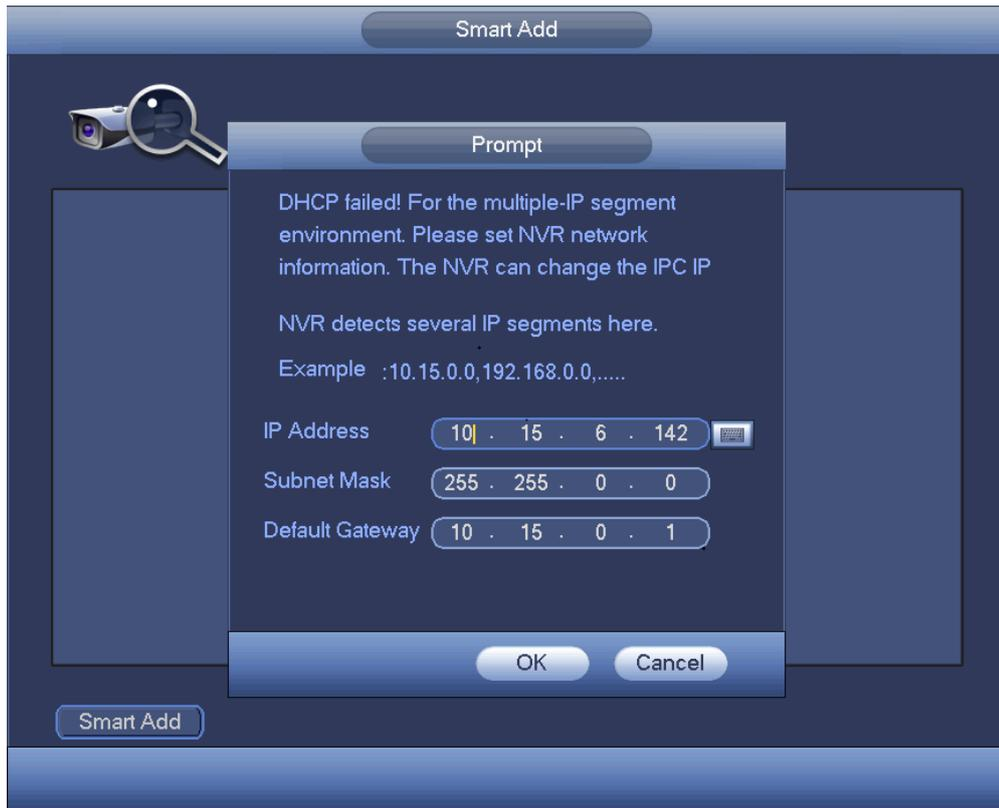

Figure 2-21
- 2) Device goes to change IP address interface. Please change IP address if necessary and then click OK button. See Figure 2-21. Please note this step is optional.